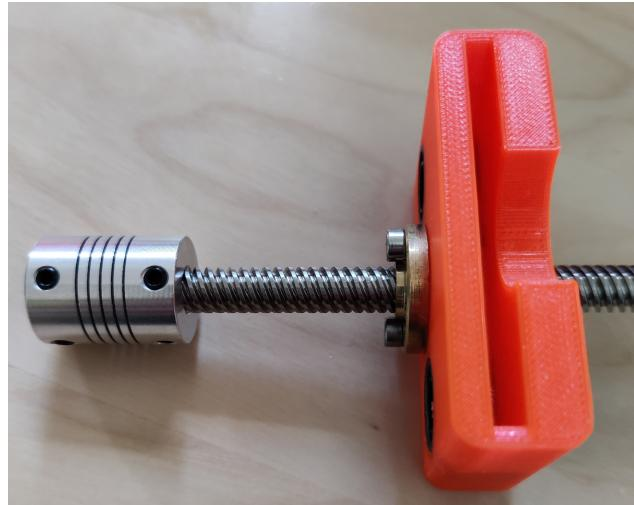

Fig. 4.4
3) Connect the flexible connector to the M8 lead screw. Some adjustment of the connector might be needed to make sure the lead screw fit correctly in the final assembly. Be sure to fit the connector evenly to avoid bending. Screw the lead screw into the pump sledge from the lead screw nut side (Figure 4.4).